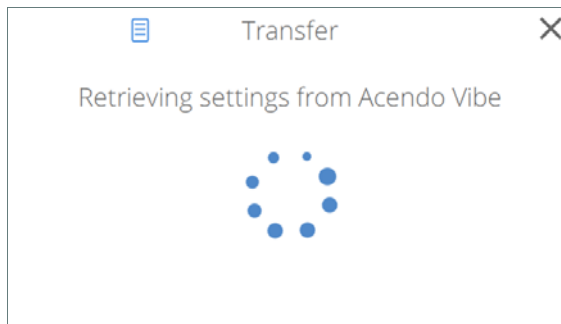

FIG. 49 Transfer - Retrieving settings from Acendo Vibe
2. The current settings (as currently configured in the Settings application) are retrieved from the Acendo Vibe. The system indicates the progress of this transfer (FIG. 49):